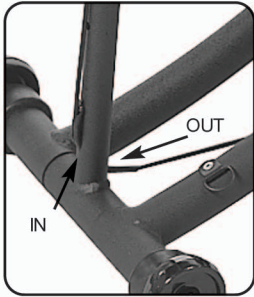

Fig. 4
9. Feed the new replacement cable, silver exposed-metal end first, in through the cable hole and out through the hole in the back of the same telescoping tube. The cable will be inside the cable sleeve. (Fig. 4)